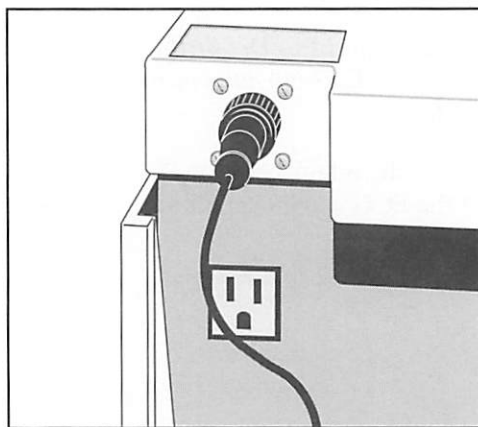

Figure 6-10. The LIFEPAK 6s Sync connector
- 4 Connect the other end of the cable to the LIFEPAK 6s SYNC connector at the top rear of the defibrillator (Figure 6-10).